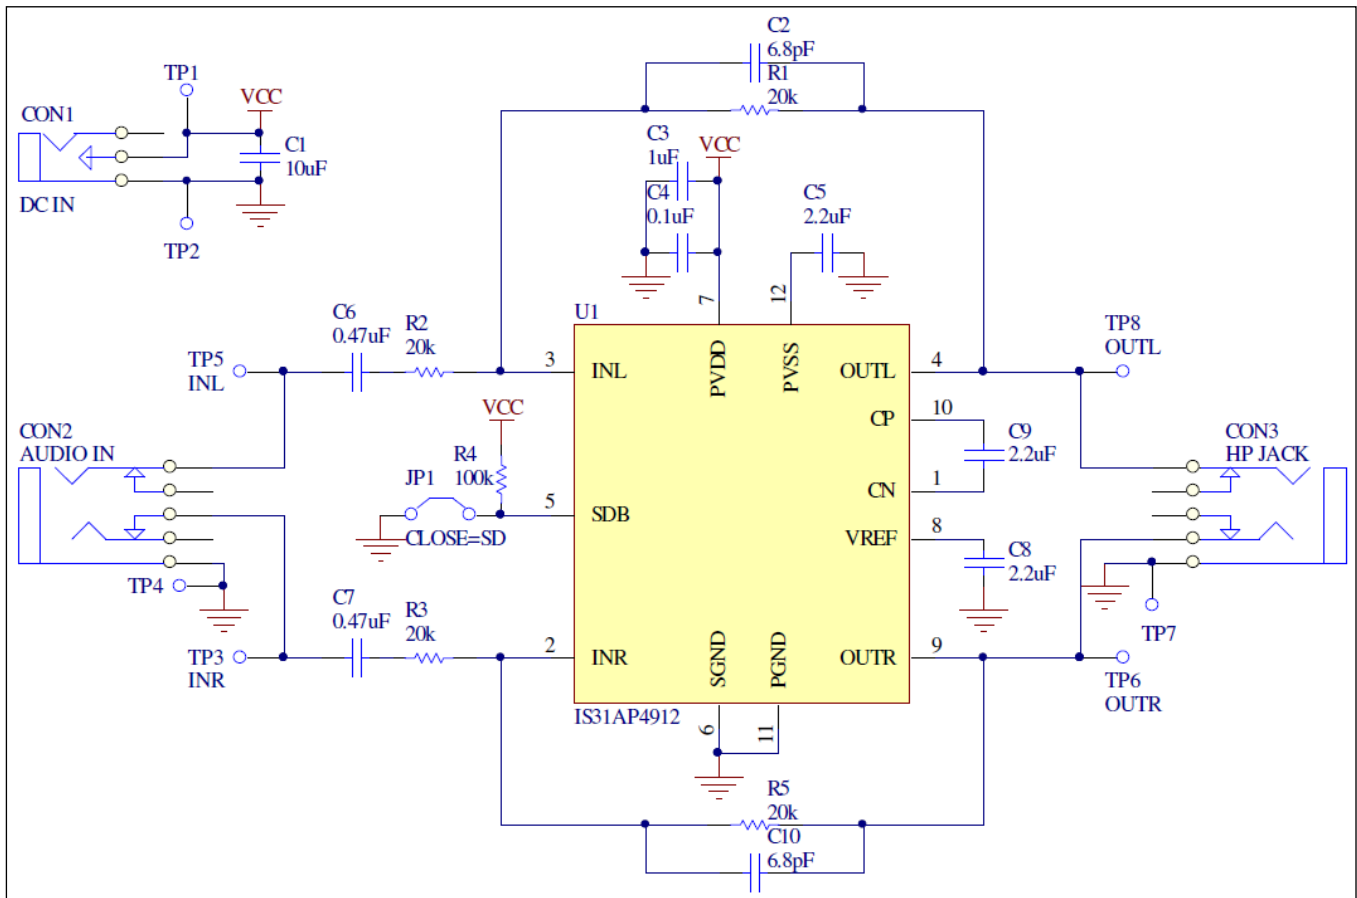

Figure 2: IS31AP4912 Application Schematic
*Bill of Materials, refer to Figure 2 above.*